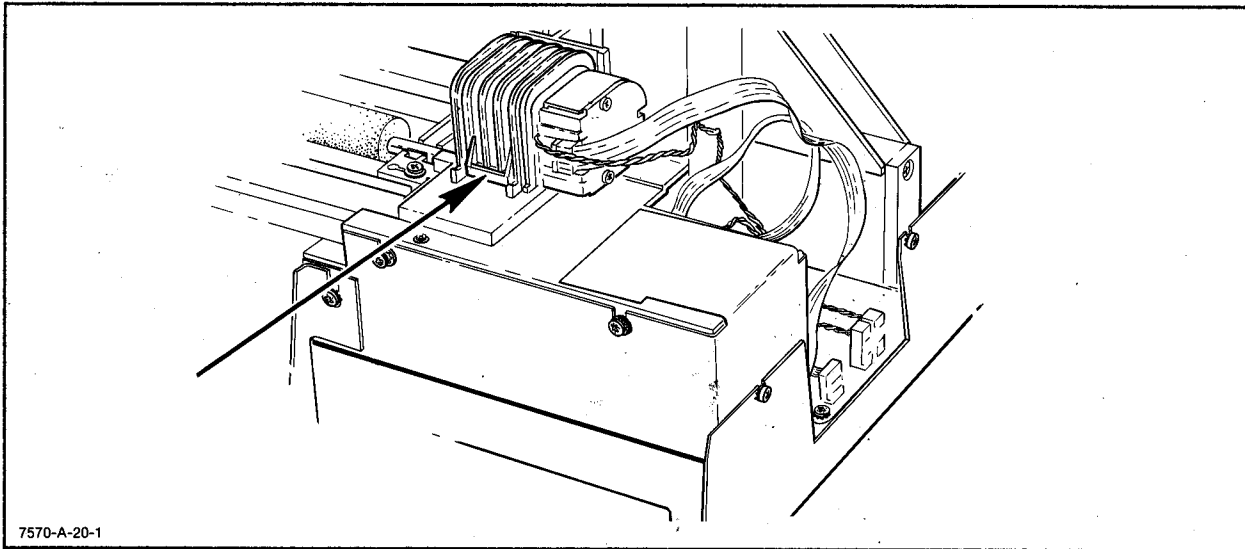

Figure 6-16. Drive Shaft Motor Clamp
- f. Using a common screwdriver, press in and lift at the lower front edge of the motor clamp. See Figure 6-16.